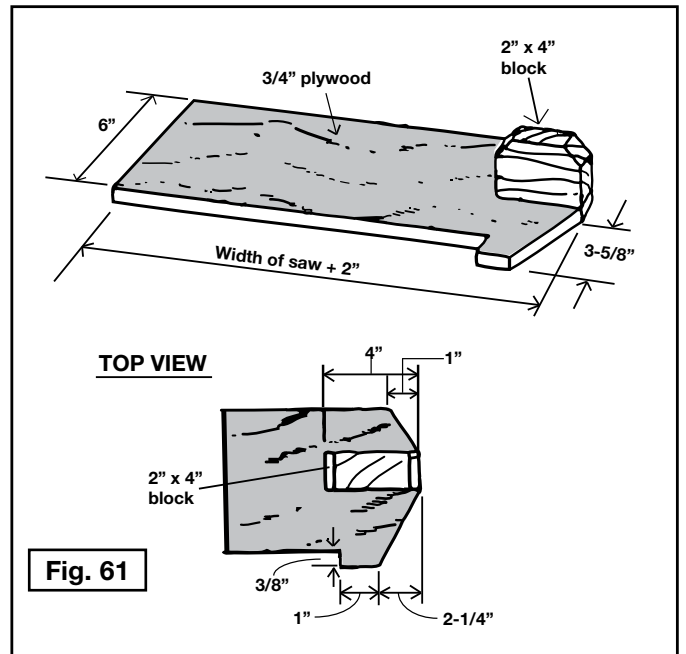
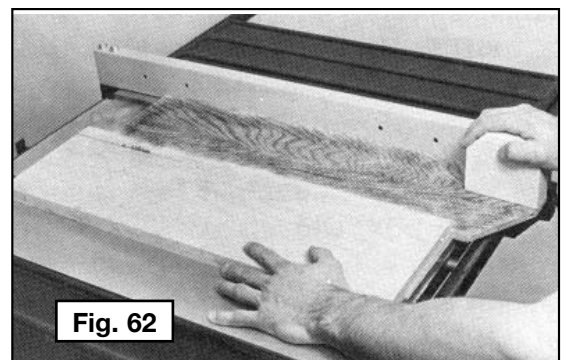

Fig. 61
Fig. 62
4. Ripping narrow pieces can be dangerous. If possible, rip the narrow piece from the larger piece. If the workpiece is short enough, use a pushboard. (A pushboard can be constructed as shown in Fig. 61 and used as shown in Fig. 62.)
NOTE: In Fig. 62, the guard and splitter have been removed for clarity. Use the guard and splitter when ripping.